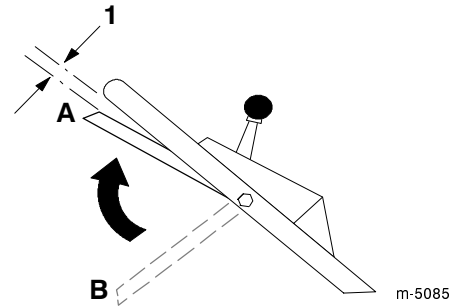

Figure 14
9. Lift the blade control bail up to about one inch (2.5 cm) below the handle; refer to position A in Figure 14.